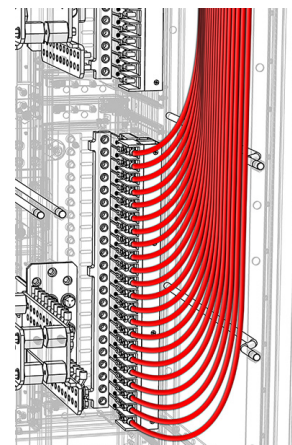

Figure 17. HOT Output Connections
- Step 2.** Beginning with the bottom bus and working upwards, install all hot output cables/lugs to the studs located on the back of each panel and tighten hardware (see Figure 17).